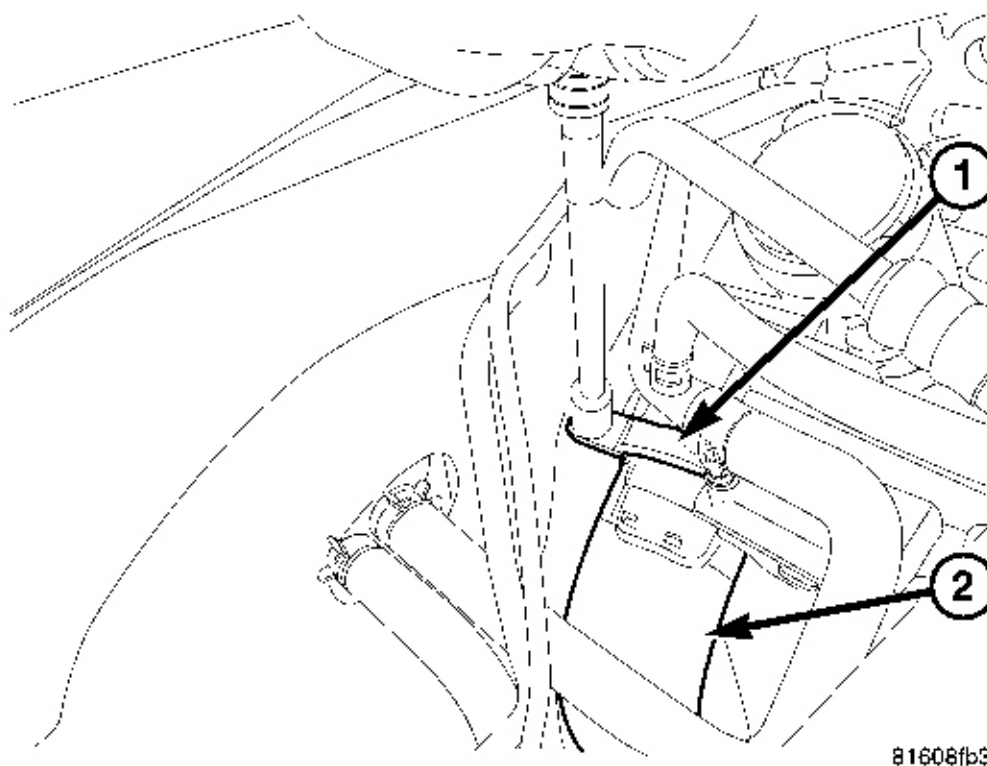

Fig. 28: Clamp & Catalytic Converter
48. Install lower catalytic converter exhaust clamp (1) behind right cylinder head. See **Fig. 28**.